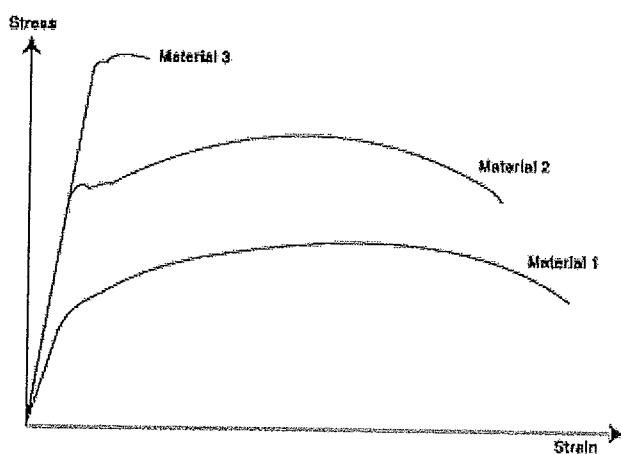

Figure 1 : Tensile Stress-Strain curves for Materials 1, 2 and 3
- [b] Figure 1 presents the tensile stress-strain curve for 3 materials ; Material 1,2 and 3. **Compare** between the 3 curves and **explain** the relevant properties of the 3 materials (i.e what do these 3 curves give).